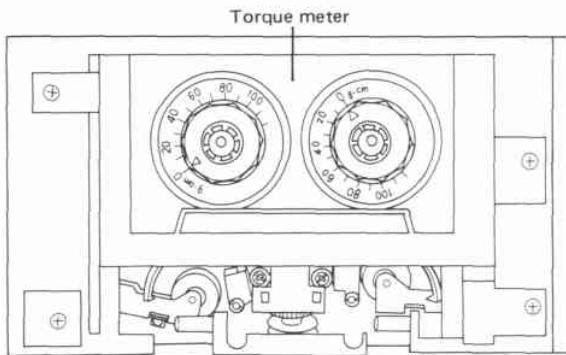

Fig. 11-6 Take-up torque adjustment
5. Check that the take-up torque is within $45 \pm 10\text{ g-cm}$ (Fig. 11-6).